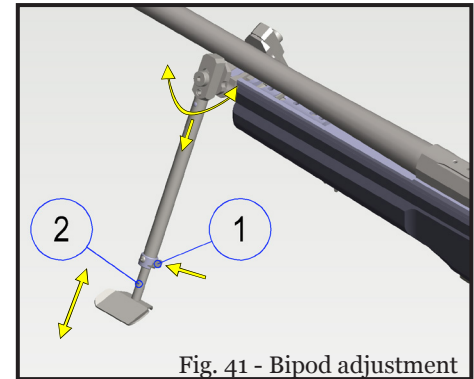

Fig. 41 - Bipod adjustment
1. Press and hold Catch (1, (Fig. 41).
2. Move lower leg (2) to the desired position.